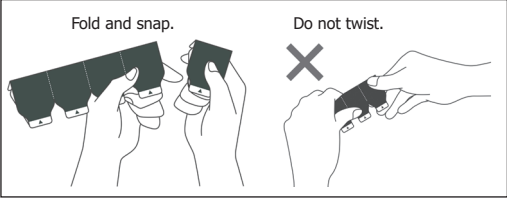

Fig.1
- Hold the blister strip as shown in the illustration and detach one container. (See Fig.1.)